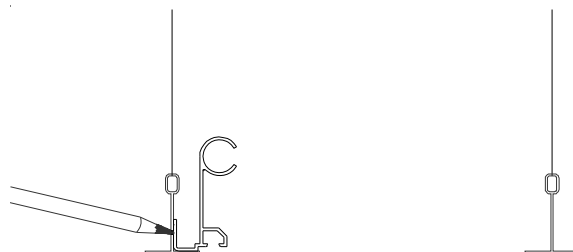

Figure 4
**STEP 5.** Select a section of the base member. Place the base member into installed position on the ceiling tee. Ensure that the base member is straight, level and properly aligned. Using the ceiling tee as a template, mark the locations for the anchors on the base member section (see Figure 4). Remove the base member from its installed position, and drill the anchor